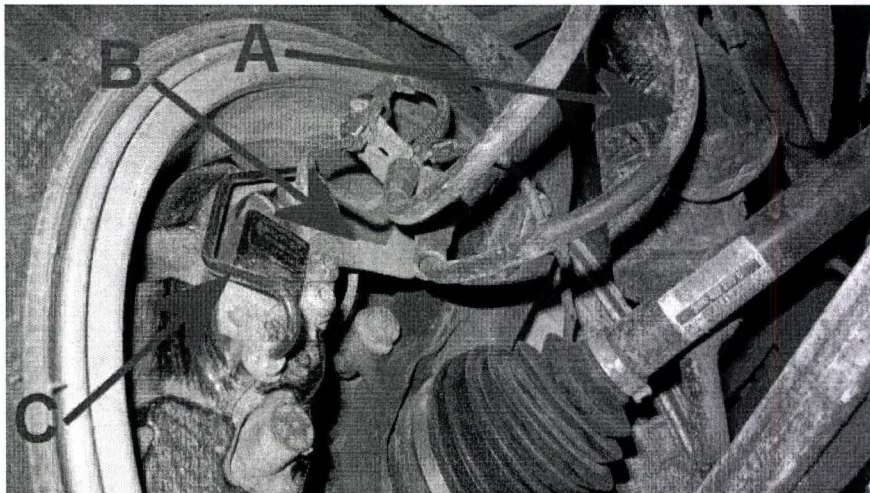

Figure 1
IMPORTANT: For clarity Figure 1 shows the Left hand front and was taken using a Continental GT with the Iron brake system fitted. Please follow this procedure for the Carbon brake system although the appearance of some components may be different than the Iron brake system.
1. Referring to the Workshop Manual Rep.Gr 47 - Remove the original Left hand front brake hose (Figure 1 point A)
- Remove the existing caliper bracket (Figure 1 point B) and disconnect the brake pad wear connector and road wheel speed sensor loom grommet from the bracket
- Remove the metal caliper brake pipe (Figure 1 Point C) **IMPORTANT:** There is no requirement to replace the metal brake pipe on GT and GTC vehicles with the carbon ceramic brake system